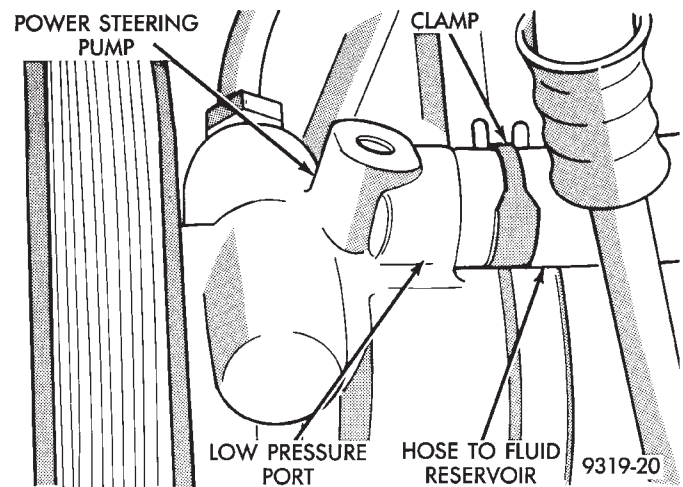

Fig. 3 Power Steering Fluid Hose From Remote Reservoir
(5) Put oil drain pan under vehicle to catch power steering fluid. Remove hose clamp from power steering fluid reservoir to power steering pump hose, at power steering pump (Fig. 3). Then remove hose from power steering pump.